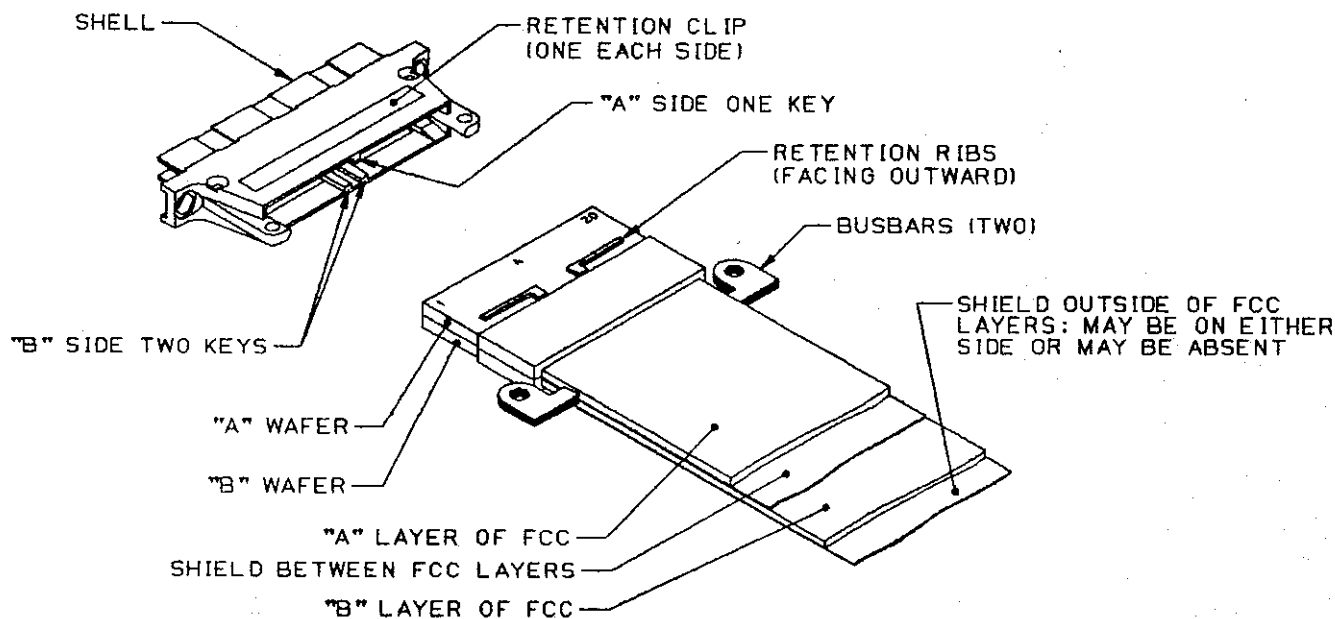

Figure 18. Terminated Insert Pair Ready for Insertion into Shell
3. Orient the A insert toward the A side of the shell and the B insert toward the B side of the shell (Figure 18).